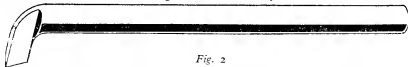

Fig. 2
be seen that the turret itself (A) is split so that the short boring-bar (C) can be secured in place by tightening the clamping-screws (B). Moreover, the turret is designed to carry the small boring-tools of Eclipse make, shown in Fig. 2, which have round section shanks ranging from $\frac{5}{16}$ in. to $\frac{3}{4}$ in. in diameter; but to enable the smaller sizes of these tools to be held, split collet adapters are required of the pattern illustrated at the foot of the general